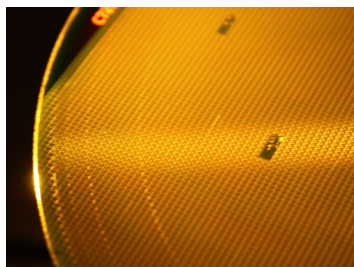

Figure 5
- The bright LED topside illumination reveals die damage from process tools (Figure 5).